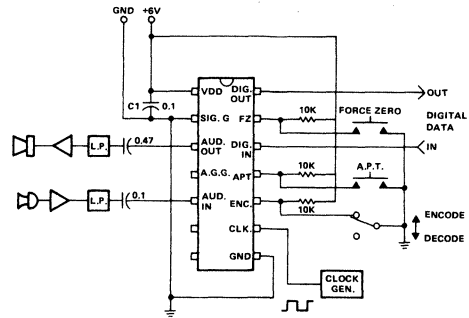

Figure 6 – CVSD Hookup for Evaluation
Figure 6 illustrates a simple evaluation breadboard circuit for the HC-55516/55532. A single device is sufficient to evaluate sound quality, etc. since, when encoding, the feedback signal at pin 3 is identical to the decoded signal from a receiver. The following are some pointers for using the devices:
- 1) Power supply decoupling is essential with the capacitor (C1 in Figure 6) located close to the I.C.